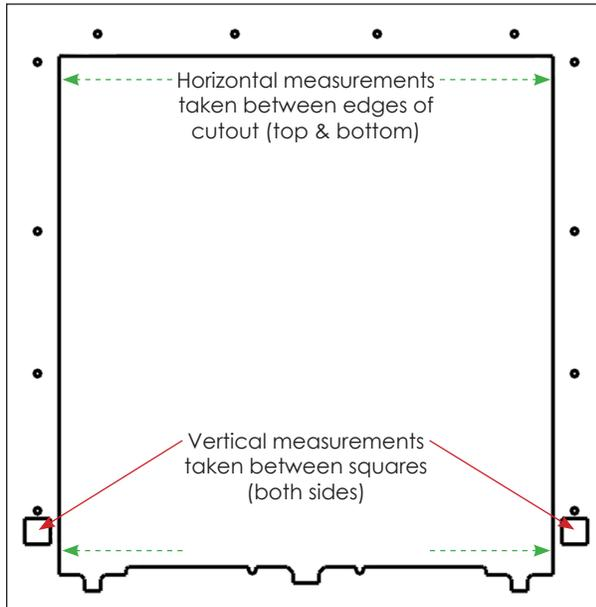
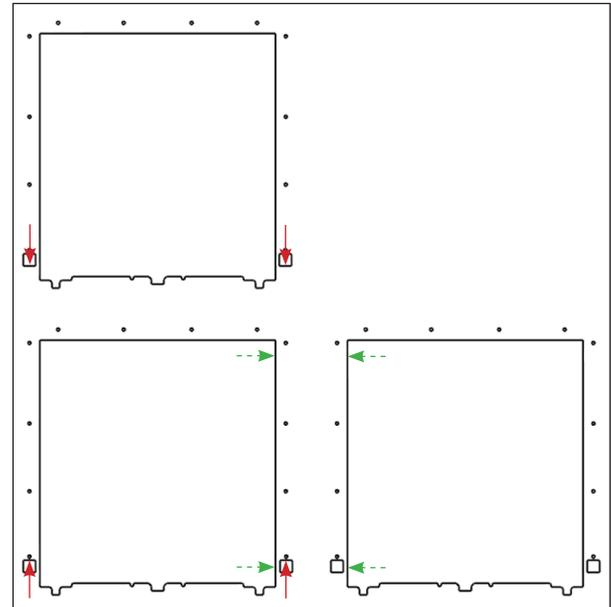

Figure 1: Measurement Locations in a Module Cutout
Figure 2: Measurement Locations in a Module Cutout
- Take all measurements from the areas shown in **Figure 1** and **Figure 2** when measuring between module cutouts.
2. Use the locations noted in **Figure 2** to measure between module cutouts within a module sheet and calibrate the caliper. With the jaws tightly between the two cutouts, press "origin" or "zero" to zero the caliper to that distance as shown in **Figure 3**. Measure between at least three cutouts to ensure the caliper is accurately zeroed.